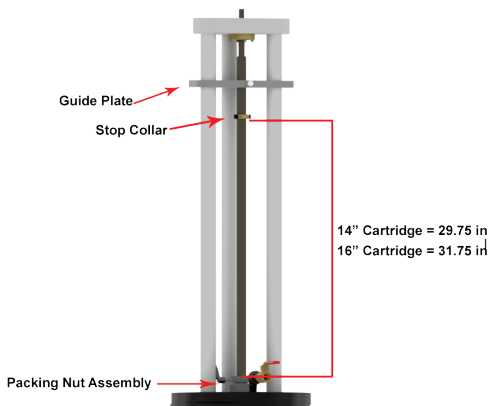

Figure 62
**5.0.22)** Set the stop collar the following distances from the top of the packing nut: (see Figure 62).